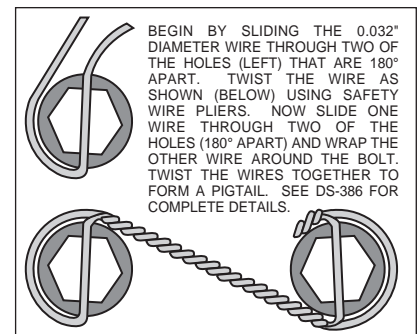
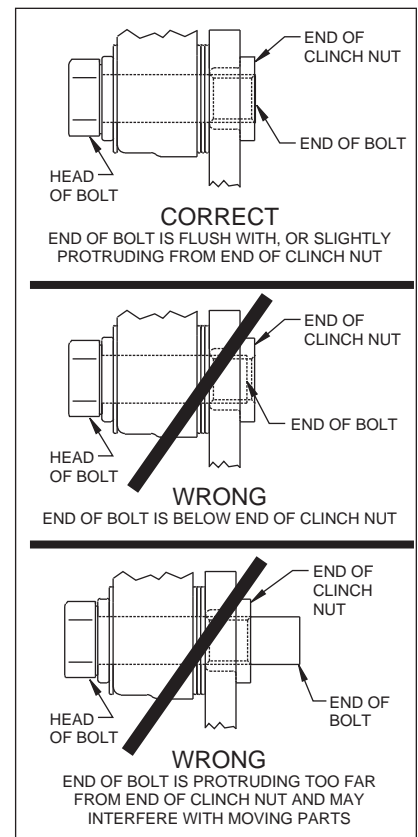

Figure 4. Safety Wire Diagram
Figure 5. Clinch Nut Engagement Diagram
**Assembly Instructions** (numbers in parenthesis refer to the part list/diagram on the preceding pages): **CAUTION:** All mounting bolts must fully engage insert nuts. Be sure to check that all bolts are either flush or protruding through flanged side of insert nut after shimming, Figure 5.
- With the mounting ears pointing towards the rear of the vehicle, install the caliper mounting bracket (1) to the housing flange using the bolts and nuts supplied with the C-clip eliminator kit. Apply red *Loctite*® 271 to the bolt threads and torque to OEM specifications. **NOTE:** The caliper mounting brackets (1) should be located between the axle housing flange and the inner C-clip hub. Make sure the heads of the caliper mounting bracket insert nuts are FACING OUTWARD TOWARDS THE WHEEL.
- Bolt the hat (2) to the rotor (3) using washers (4) and bolts (5). Torque bolts (5) to 180 in-lb. Safety wire bolts (5) using standard 0.032 inch diameter stainless steel safety wire as shown in Figure 4. Please refer to Wilwood's data sheet DS-386 (available at [www.wilwood.com/Pdf/DataSheets/ds386.pdf](http://www.wilwood.com/Pdf/DataSheets/ds386.pdf)) for complete safety wire installation instructions.
- Align the correct hole pattern in the hat (2) with the stud pattern on the axle flange. **NOTE:** Some OEM and after market axles come with stud sizes larger than 0.50" diameter. Verify stud size and have a qualified machine shop drill the hats to the correct size. Slide the hat/rotor assembly (2 and 3) over the wheel studs and against the axle flange face.
- NOTE:** Please reference the caution statement at the beginning of the assembly instructions. WITH THE BLEED SCREWS POINTING UP, mount the caliper (6) over the rotor (3) and onto the caliper mounting bracket (1) using washers (7) and mounting bolts (8). View the rotor through the top opening of the caliper. The rotor should be aligned in the center of the caliper. If not, adjust the caliper by using 0.032 inch shim washers (9), placing them between the caliper mounting bracket (1) and the caliper (6). Add as many shim washers (9) as necessary to achieve the correct alignment. **NOTE:** The end of the bolt must be flush with or slightly protruding from the head of the clinch nut. See Figure 5. Place spare shims (9) between washer and caliper mounting ear to achieve the proper mounting fastener configuration. Always use the same amount of shims on both the top and bottom caliper mounting bolts (8). Apply red *Loctite*® 271 to the mounting bolt threads (8), torque bolts to 30 ft-lb. Safety wire the caliper mounting bolts (8).
- Position the Wilwood disc brake pads (10) into the caliper (6) and fasten with cotter pin (11). Steel backing plate side of brake pad should face the caliper pistons.